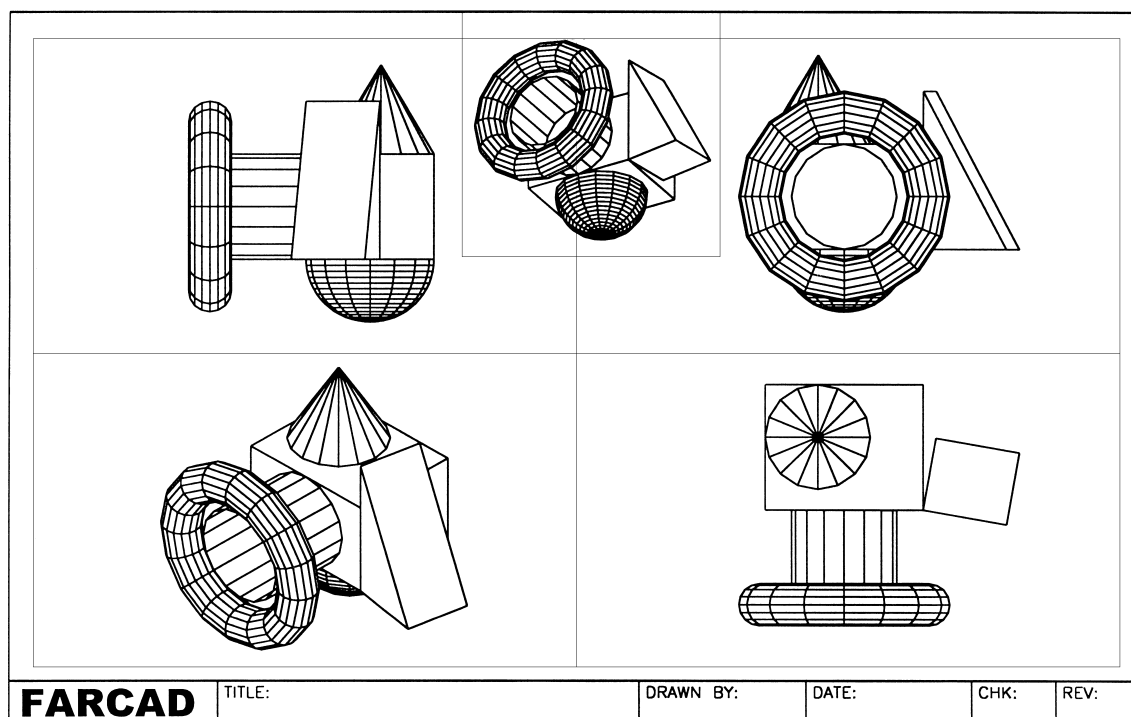

Figure 21.1 3D objects example.
- 2 Refer to Fig. 21.1 and display the Surfaces toolbar
- menu bar with View-Viewports-1 Viewport and make a new viewport selecting one of the points 'outwith' the original four as shown in Fig. 21.1